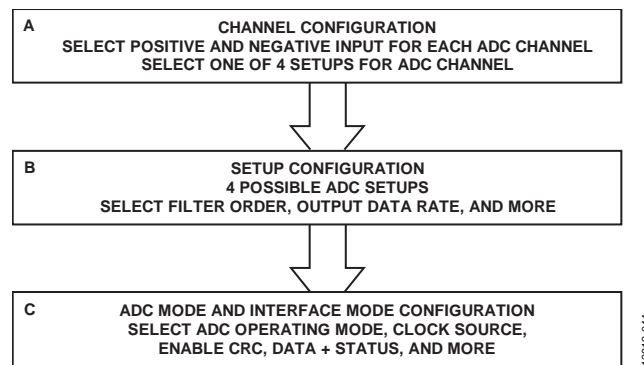

Figure 44. Suggested ADC Configuration Flow
Figure 44 shows an overview of the suggested flow for changing the ADC configuration, divided into the following three blocks:
- Channel configuration (see Box A in Figure 44)
- Setup configuration (see Box B in Figure 44)
- ADC mode and interface mode configuration (see Box C in Figure 44)